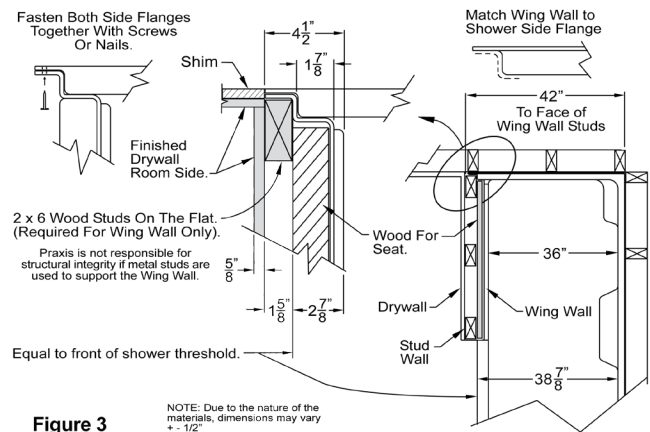

Figure 3
1. Trial fit the wing wall panel after the shower has been installed and fastened to the framing. The vertical mounting flange on the wing wall should match up with the side flange of the shower wall. (See figure 3, photo 1)
6. Confirm that the match-up between the shower side wall mounting flange and the wing wall side flange is satisfactory. These two flanges lap together. (See figure 3)